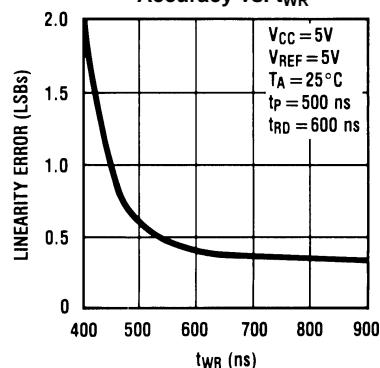
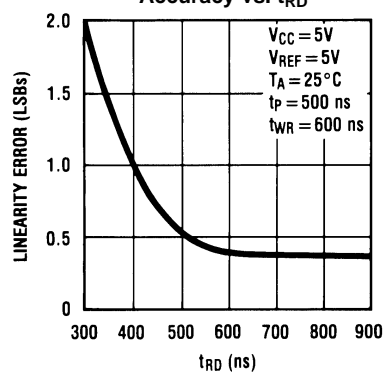

Figure 11.
Figure 12.
(3) Design limits are specified but not 100% tested. These limits are not used to calculate outgoing quality levels.
(4) Accuracy may degrade if  $t_{WR}$  or  $t_{RD}$  is shorter than the minimum value specified. See Figure 11 and Figure 12 graphs.